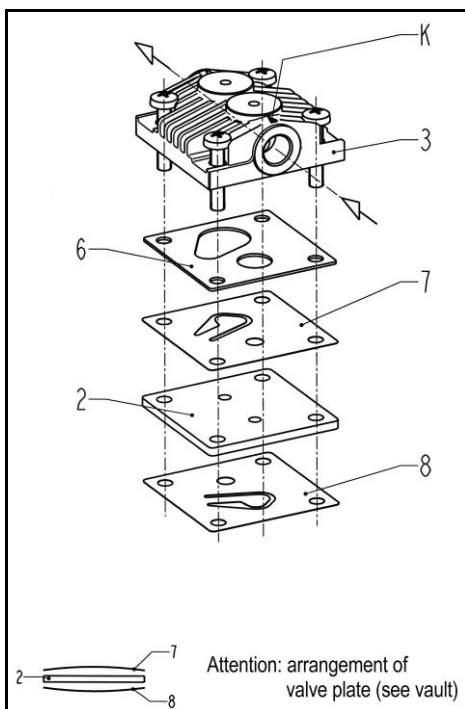

Fig. 8:
5. Reassemble the "head assembly": stack the following parts on top of each other in the order given - ribbed head (**3**), gasket (**6**), valve plate (**7**), intermediate plate (**2**), and valve plate (**8**). Fig. 8 shows the correct orientation of the parts, particularly the valve plates, in relation to the compression symbol on the head plate. Both valve plates are identical, and they can be fitted either way up. The intermediate plate can also be fitted either way up.